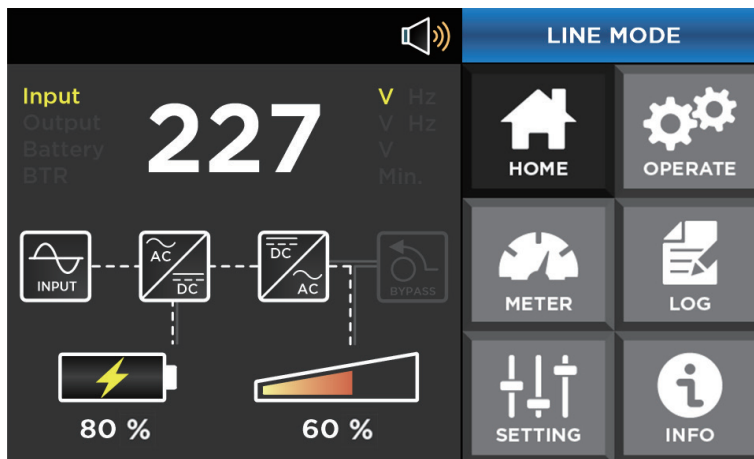

Fig.4-6 Interface of Line mode
4. After about 20S, when the charger self-check is running normally, the UPS switches on the charger relay to charge the battery. As shown in Fig.4-6.